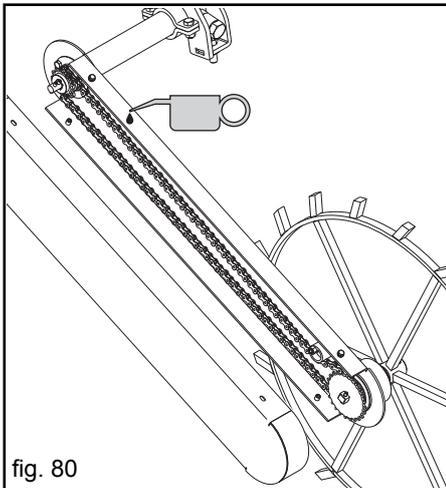
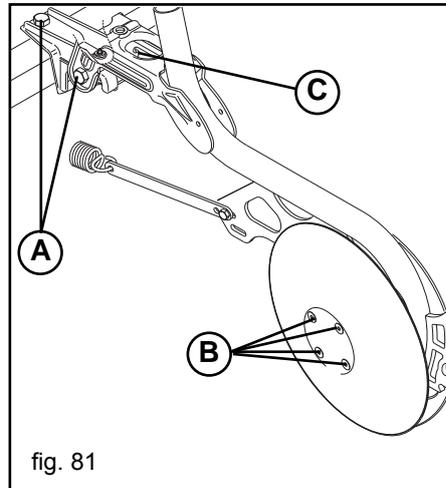
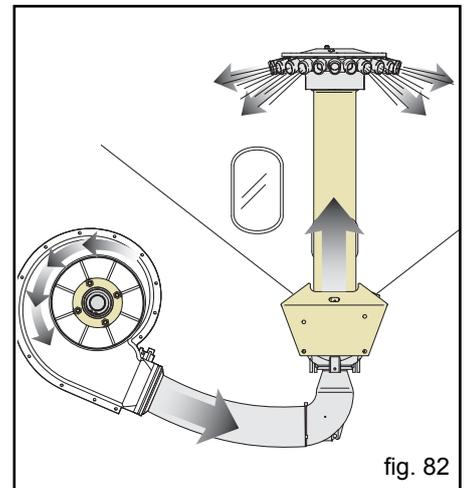
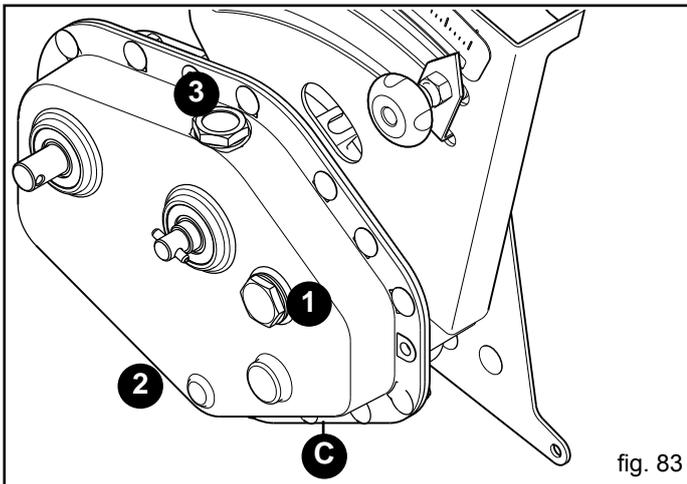

fig. 80
fig. 81
fig. 82
fig. 83
WHEN THE MACHINE IS NEW	<ul style="list-style-type: none"> <li>- Lubricate all the transmission chains with mineral oil (SAE 80W/90) (Fig. 80).</li> <li>- Grease all parts indicated by transfer nr. 14 ('GRASE') at page 52 of this leaflet.</li> <li>- After the first hours of work check that all the bolts are still tight.</li> <li>- Check the tightness of the bolts on the listers (A-B, Fig. 81).</li> <li>- Grease all the coulter elements (C, Fig. 81).</li> </ul>
AT THE BEGINNING OF THE SEEDING SEASON	<ul style="list-style-type: none"> <li>- Lubricate all the transmission chains with mineral oil (SAE 80W/90) (Fig. 80).</li> <li>- Before every new season, change the gearbox oil with SAE 10W (2 Kg) as follows: oil drainage plug, 2 Fig. 83; oil filling plug, 3 Fig. 83.</li> <li>- Make sure that the transmission rotates freely without any interferences.</li> <li>- Operate the empty seeding machine, the air-flow frees the pipes from condensation and removes eventual impurities (Fig. 82).</li> <li>- Grease all the coulter elements (C, Fig. 81).</li> </ul>
EVERY 20/30 WORKING HOURS	<ul style="list-style-type: none"> <li>- Check the tightness of the bolts on the listers (A-B, Fig. 81).</li> <li>- Clean and lubricate the transmission chains (Fig. 80), the gears and the chain tensioner.</li> <li>- Check the fan-belt tension (Fig. 84). Press on the middle part of the belt between the two pulleys with a 5 Kg force. Each belt should give max. 1 cm (Fig. 84). Replace the belts if they present signs of wear or aging. Always replace the belts in pairs with genuine spare belts. Replace the transmission belts every 400 hectares tilled!</li> </ul>
EVERY 50 WORKING HOURS	<ul style="list-style-type: none"> <li>- Grease all the coulter elements (C, Fig. 81).</li> <li>- Clean the distributor carefully and thoroughly (see cap 3.5.1).</li> <li>- Thoroughly clean the entire distribution head (Fig. 85) as follows: <ul style="list-style-type: none"> <li>• loosen and remove the wing nuts (A);</li> <li>• remove the cover on the distributor (B);</li> <li>• clean metal parts with a brush and plastic parts with a cloth;</li> <li>• put the cover back in place and close it with the wing nuts.</li> </ul> </li> <li>- Make sure the toothed wheels are properly aligned and the transmission chains are tensioned to prevent them from wearing out in little time or a failure affecting the transmission parts.</li> </ul>
<p>EVERY 50 WORKING HOURS</p>	<ul style="list-style-type: none"> <li>- Grease the row marker arm pin (Fig. 86).</li> <li>- Clean the blower clutch with a jet of air (Fig. 87).</li> <li>- Grease the bevel gear pair of the Cardan shaft (Fig. 88).</li> <li>- Check the oil level in the gearbox and top up to level (1, Fig. 83) whenever necessary using the same type of oil (SAE 10W) whenever possible.</li> </ul> <p>ATTENTION!!! While the gearbox is being adjusted or serviced, the screw must not be touched for any reason (C, Fig. 83): this would alter the setting of the gearbox with an adverse effect on distribution.</p>